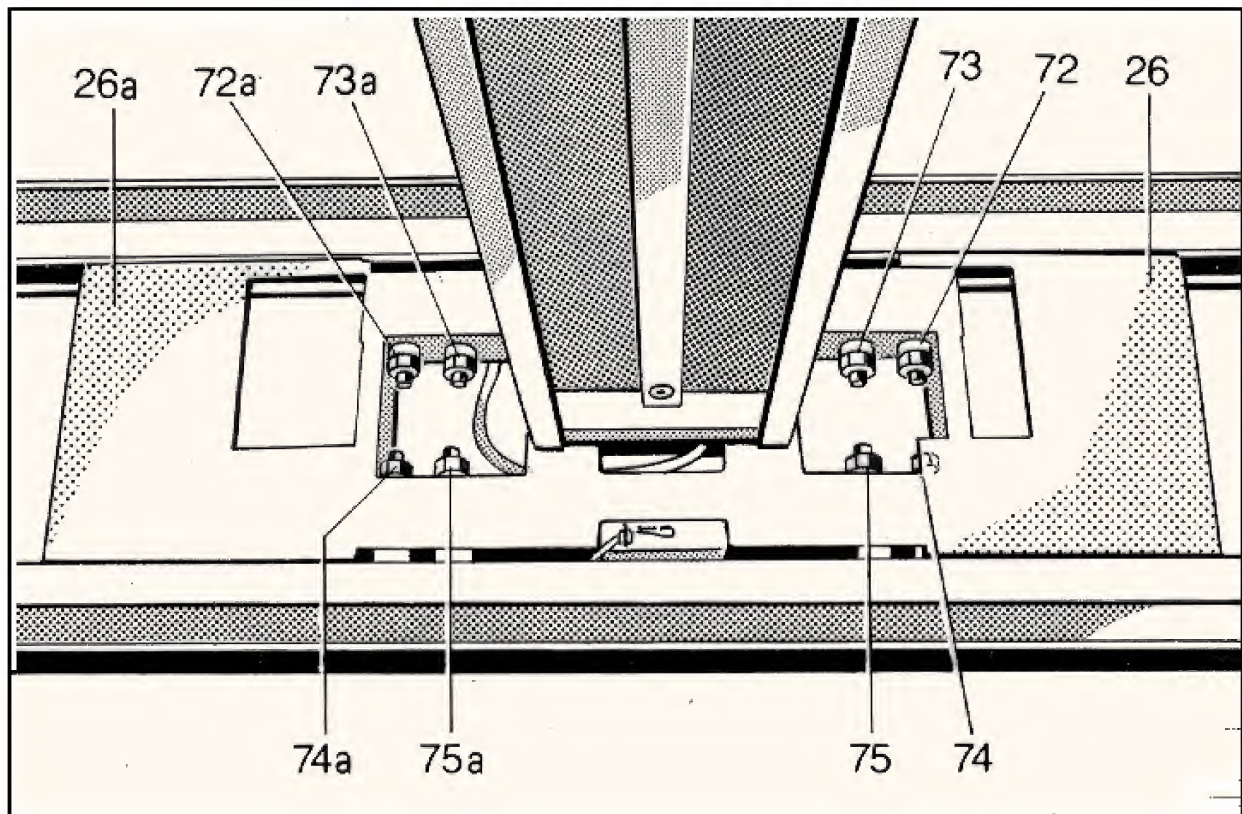
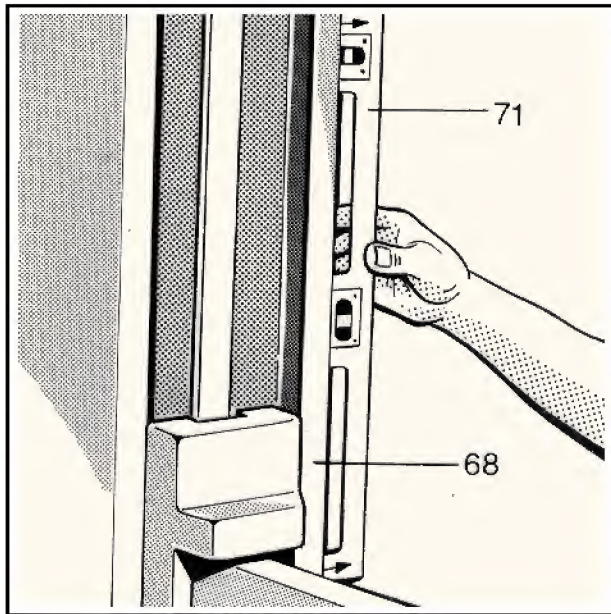
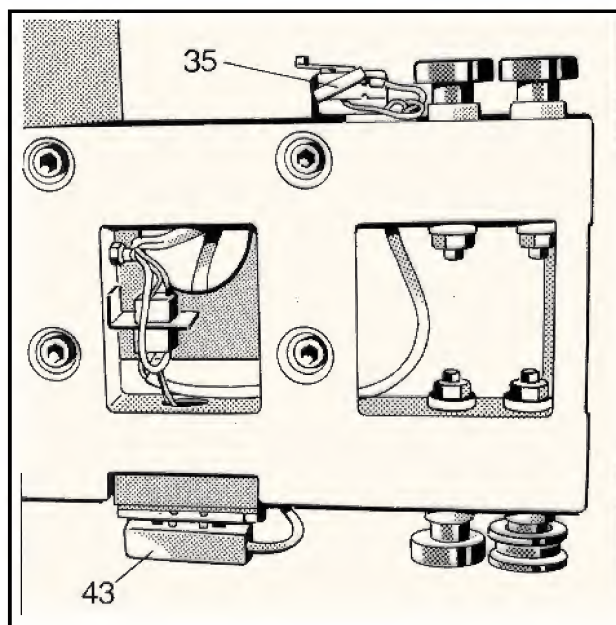

Fig. 18
Fig. 19
Fig. 25
Check the upright position of the column (Fig. 19/item 68) with water level (item 71). If it is necessary to adjust the column position, remove cover plate (Fig. 18/items 26 and 26a), turn outer pulleys (items 72, 72a and 74, 74a) by adjusting eccentric axis so that they don't touch the running surface. The column can now be adjusted in its upright position by turning the inner eccentrics (items 73, 73a and 75, 75a). When the column is in the proper position, turn back the outer pulleys so that they touch the running surface. Move the column over entire travel range and check for smooth and easy running.
Switches: Remove cover cap (Fig. 18/item 26a) and adjust switches -S8, -S9 (Fig. 25/item 35) within range of slotted holes.
- \* Remove cap (Fig. 18/items 26 and 26a).